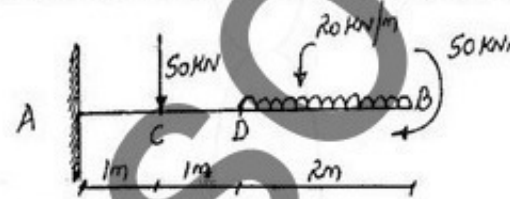

Fig.Q.6(a)
- 6 a. Sketch SFD and BMD for the beam shown in Fig.Q.6(a) indicating salient points.
- b. Sketch SFD and BMD for the beam shown in Fig.Q.6(b) indicating salient points including point of contraflexure. (08 Marks)